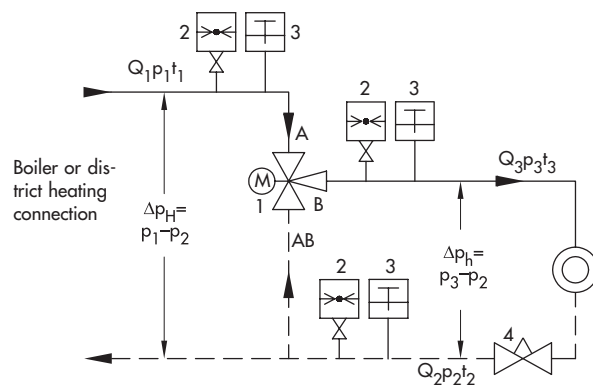

Fig. 6 · Required pressure and temperature measuring equipment for a control valve with jet pump
For plants employing jet pumps, the pressure gauges and thermometers as illustrated in Fig. 6 are required for adjusting and readjusting the system. The pressure gauge/thermometer or equivalent test connections are to be arranged to keep the distance to the connections of the valves (A, B and AB) as small as possible. The pressure gauges for pressures  $p_1$ ,  $p_2$  and  $p_3$  are used to determine the differential pressures  $\Delta p_H = p_1 - p_2$  and  $\Delta p_h = p_3 - p_2$ . The throttle valve (4) serves to adapt pressure and temperature conditions.
## Legend for Fig. 6: